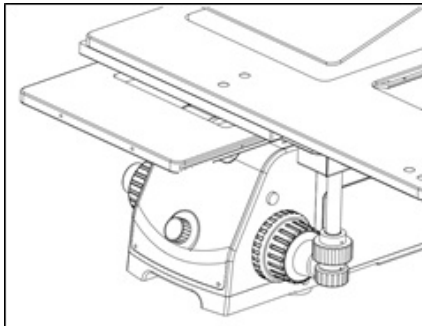

Fig. 18
△ **When moving the stage, be careful not to catch a finger or other body part in the holes ⑤ provided for reducing the weight of middle and lower stage plates. (Fig. 18)**